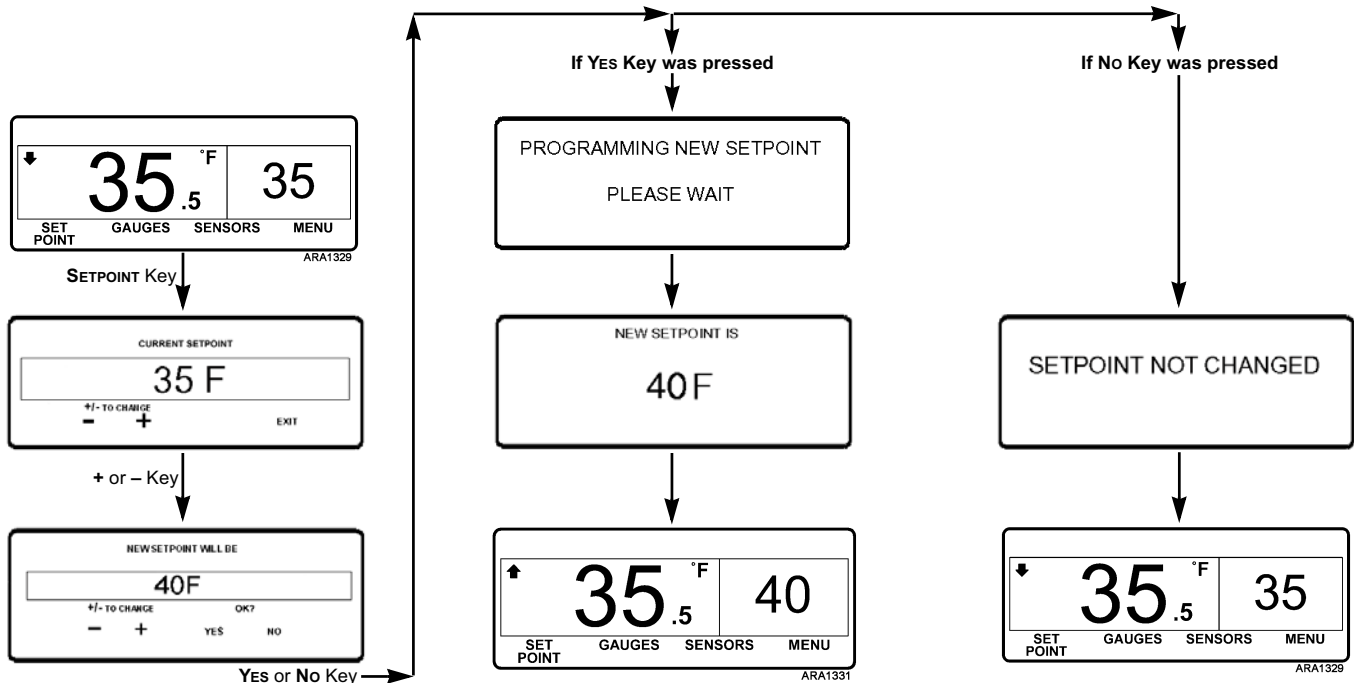

Figure 46: Changing the Setpoint Screen Sequence
2. Press the **SETPOINT** soft key on the Standard Display. See Figure 45. The “Setpoint” Screen briefly appears, then the “Current Setpoint” Screen appears. See Figure 46.
3. Press the **+** or **-** soft keys to change the setpoint reading. See Figure 46.
4. Press the **YES** or **NO** soft key accordingly as described below. See Figure 46.
- If the **Yes** soft key is pressed, the setpoint change made with the “+” or “-” soft keys will be accepted, and display screens will appear as shown in Figure 46.
5. The “Programming New Setpoint” Screen will appear. See Figure 46.
6. The “New Setpoint Is XX” Screen briefly appears. See Figure 46.
7. The Standard Display appears with setpoint changed to the new setpoint. See Figure 46.